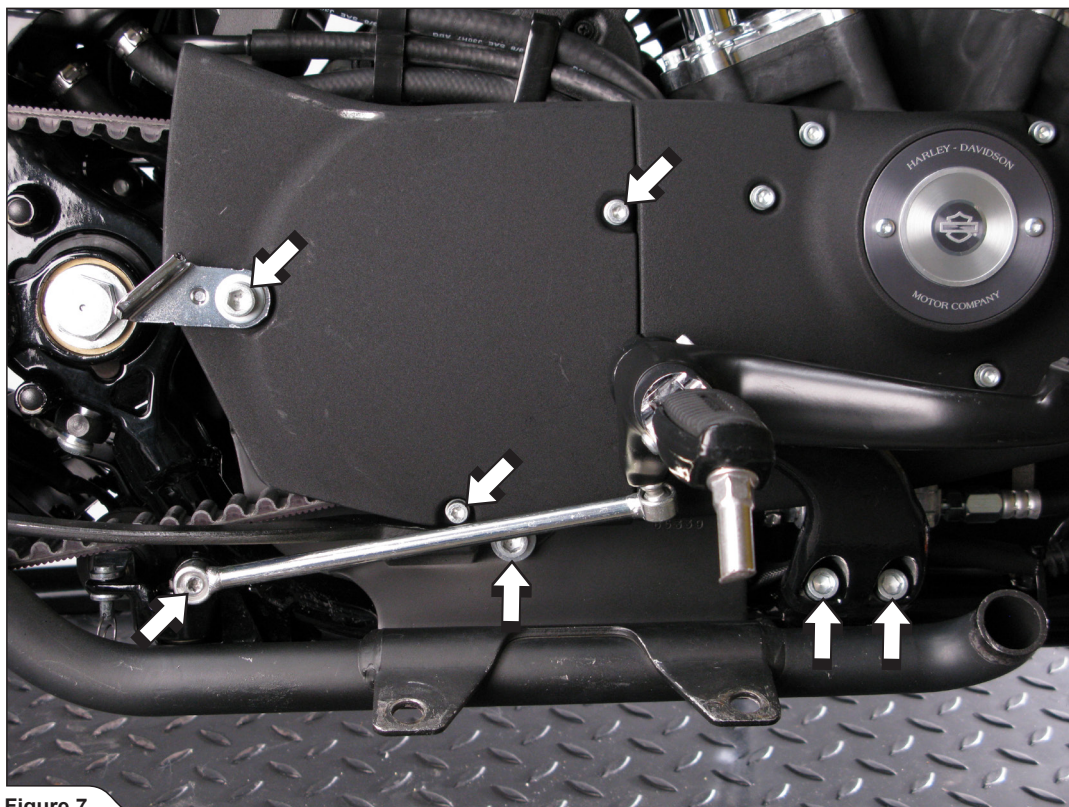

Figure 7
8. Unscrew the marked rear brake push rod ball joint, the foot peg mount and the belt drive sprocket cover (Figure 7).